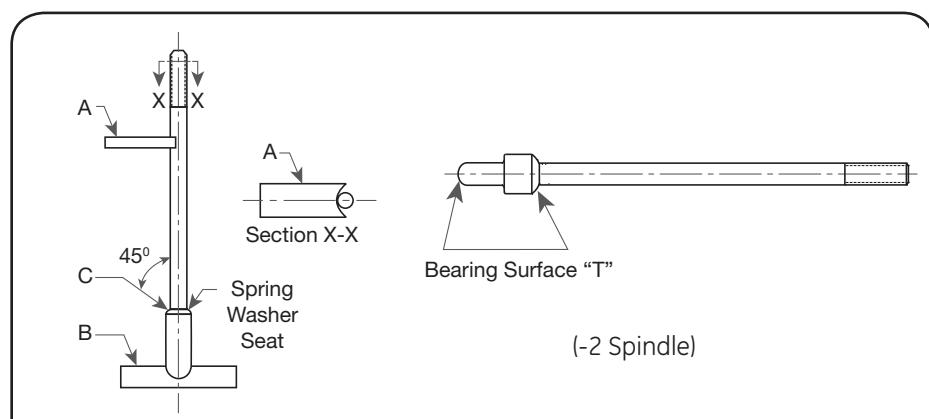

Figure 13: V-Block Support Setup
- The ball-pointed spindles should be placed in a piece of material, "B" that has been recessed to permit free rotation of the spindle (see Figure 13).
3. The stem is bent (see Figure 13).